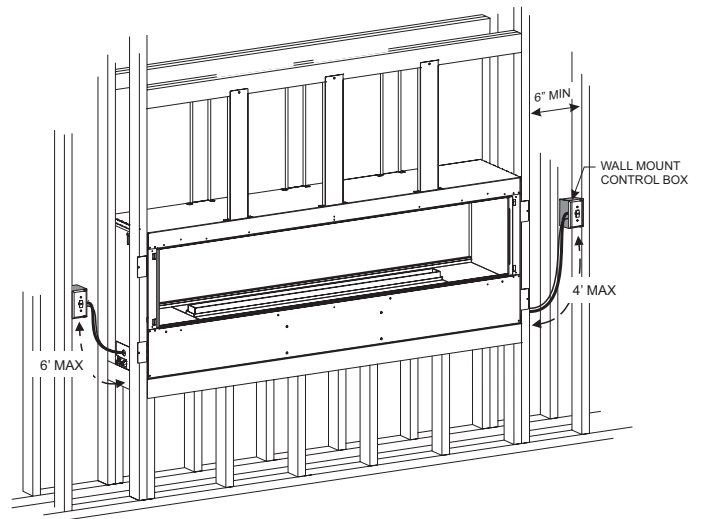

Figure 35
- Install the wall-mounted control box within 6 feet to the left side or 4 feet from the right. **See Figure 35.**